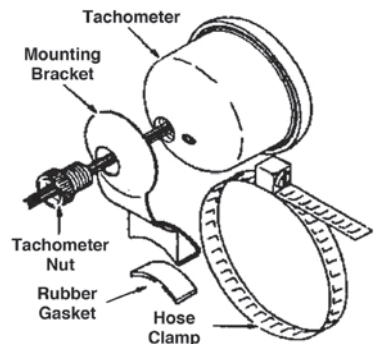

Fig. 3
- b. To mount on steering column, use large hose clamp (sold separately) and rubber gasket (#5). (Fig. 3)